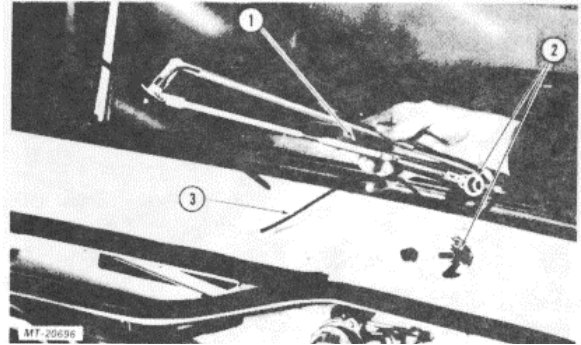

Fig. 2. Removing Wiper Arms
2. Remove wiper blades and arms (Fig. 2).